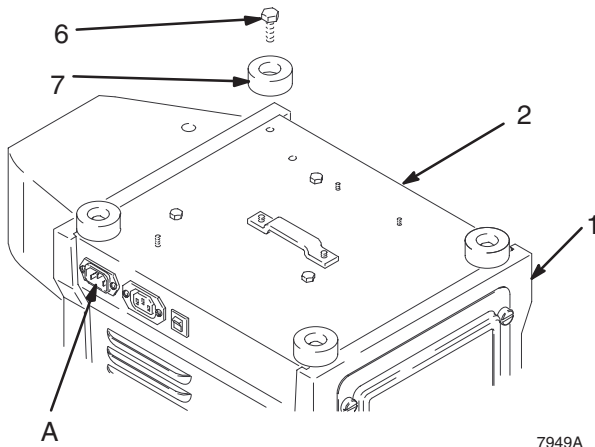

Fig. 9
2. Place turbine upside down on work surface. Remove four cap screws (6) and bumpers (7). See Fig. 9 below and **Parts Drawing** on page 16.
3. Carefully lift unit by turbine baseplate (2) from turbine cover (1), and place upright on work surface.
Replace power cord by unplugging from IEC connector (A). Install new cord. See Fig. 9